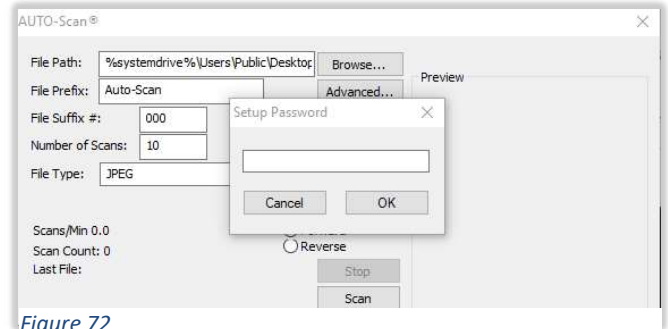

Figure 72
- Click on button to access the *Advanced AS* window of the setup window. A password window will open. *Figure 72*